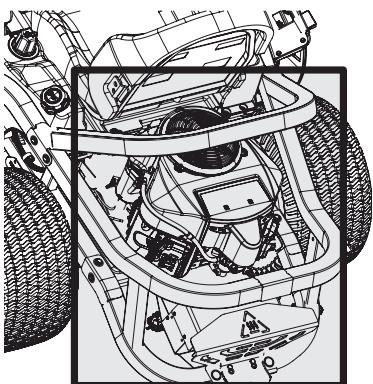

Figure 23
- Keep both sides of transmission cooling slots, exhaust manifold, around fuses, all wiring and harnesses, muffler pipe, muffler shield, engine intake screens and cooling fins, etc., clear of grass clippings and leaves. See Figure 23.